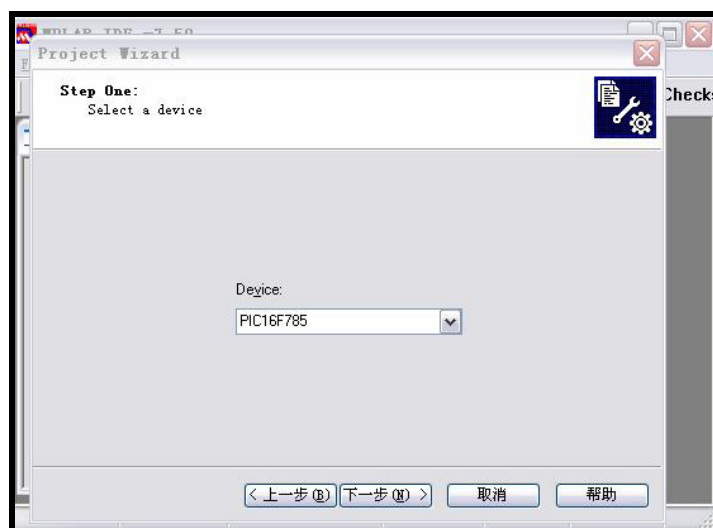

Figure 3-5 Choose chip model
Step 2, directly click "Next", and select chip model, as shown in Figure 3-5.